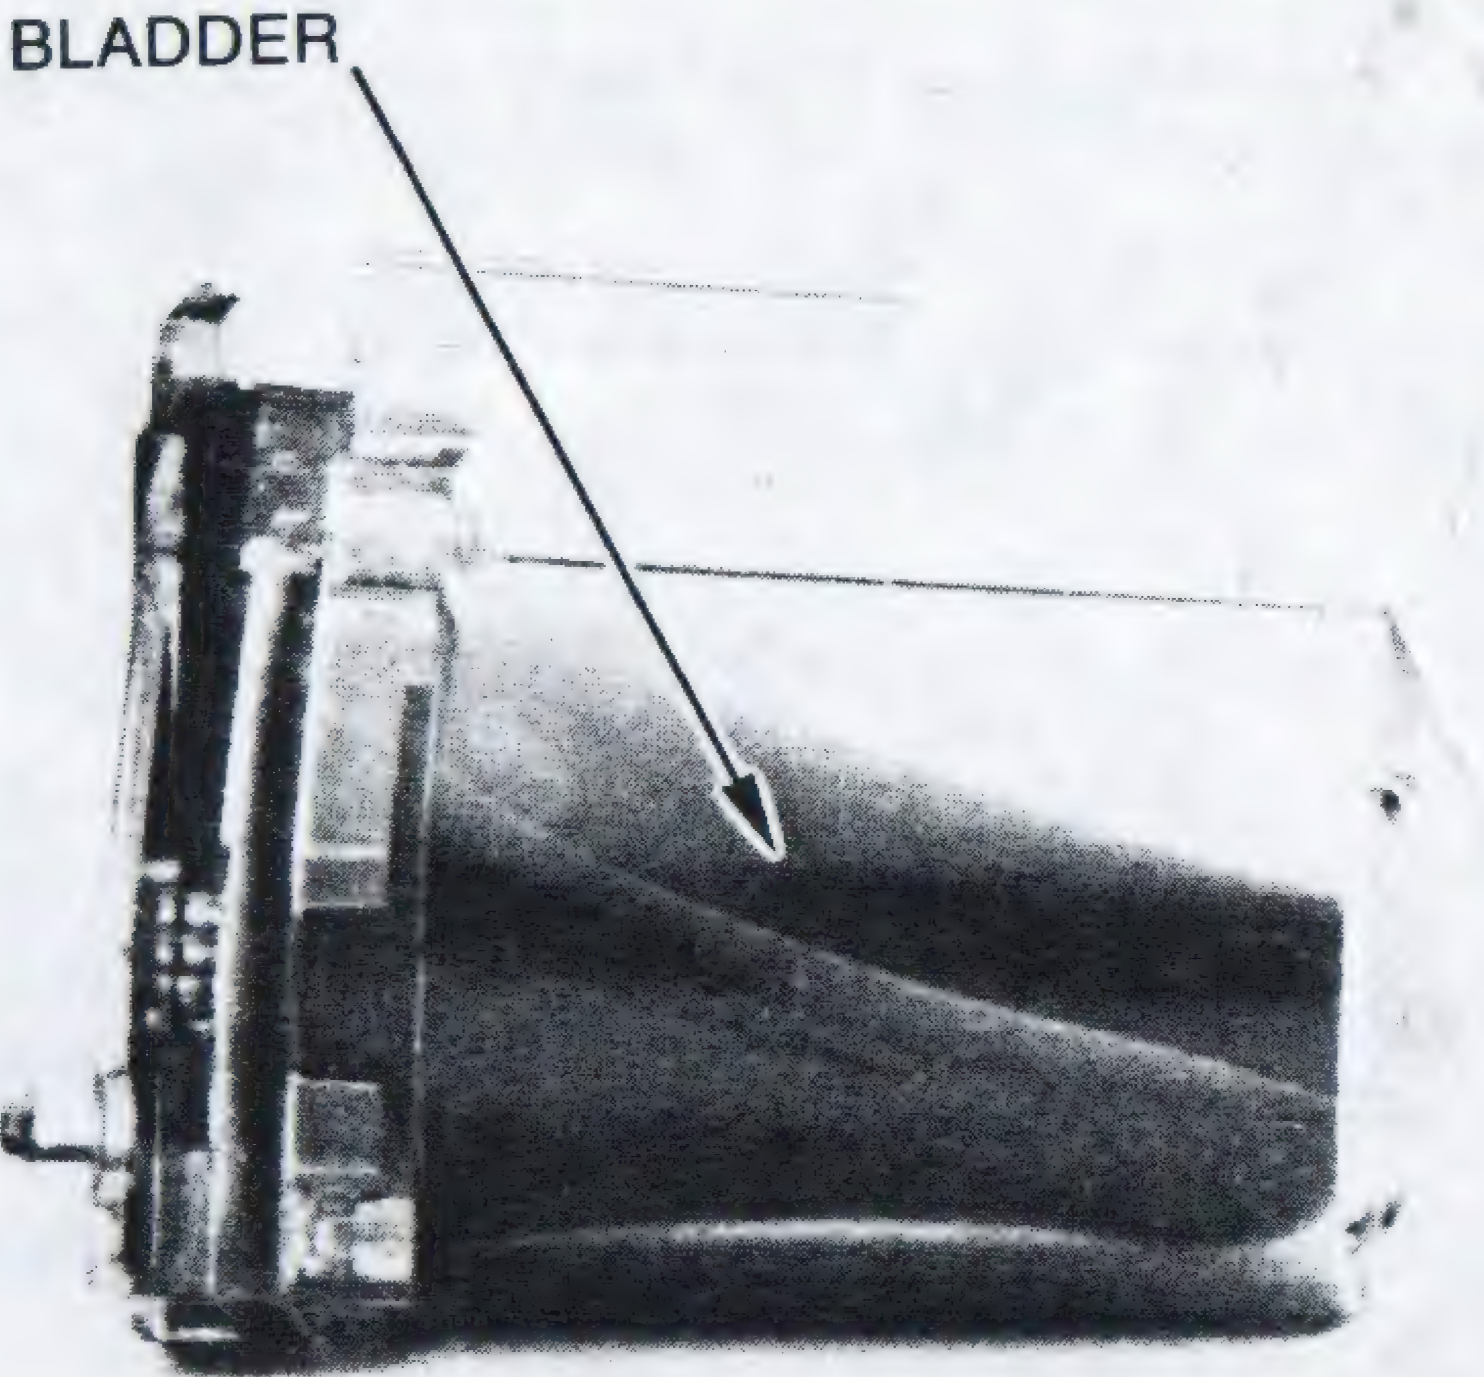

Figure 4-1 Empty Cartridge
- Ensure that there is sufficient ink in the cartridge by viewing the bladder. If the bladder is collapsed, replace the cartridge (see Figure 4-1).